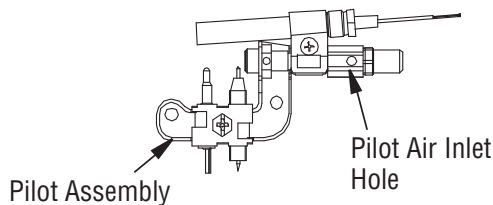

Figure 81 - Pilot Inlet Air Hole (Your pilot may vary from pilot shown)
2. Inspect burner, pilot and primary air inlet holes on injector holder for dust and dirt (*see Figure 81, Page 34*).